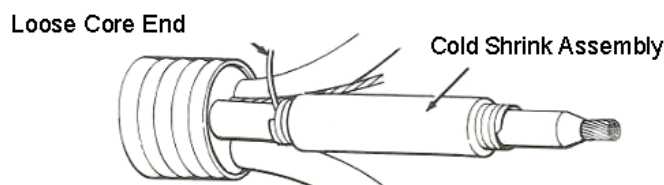

Figure 1
1. Slide cold shrink insulator assemblies onto Cable “A” power conductors, placing loose core end on first. (Figure 1)